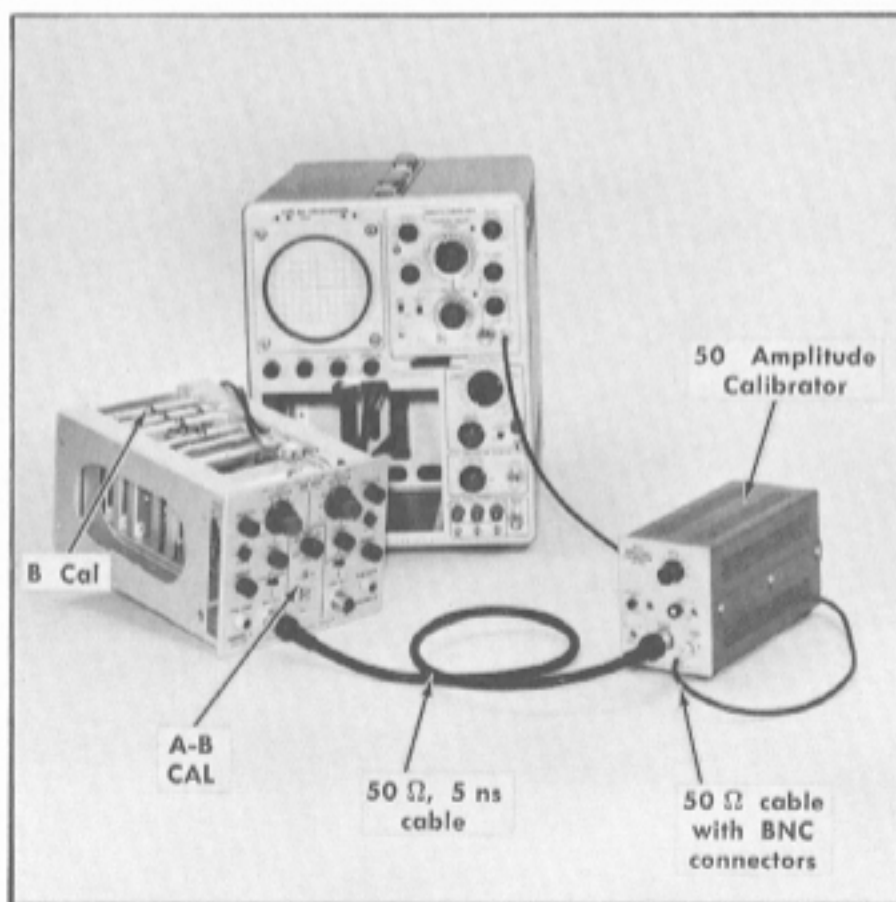

Fig. 6-27. Initial test equipment setup for steps 13 through 18.
- Initial test equipment setup is shown in Fig. 6-27.